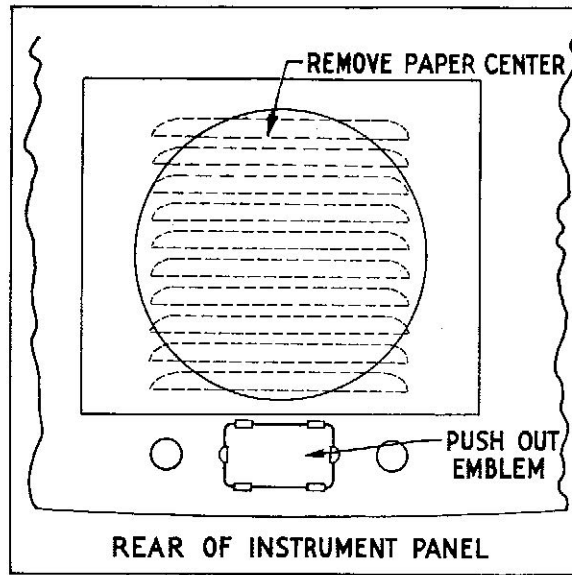

FIGURE 3
1. Remove the emblem below the center grille, (see Figure 3). This uncovers the mounting holes for the control and the dial window for the radio.